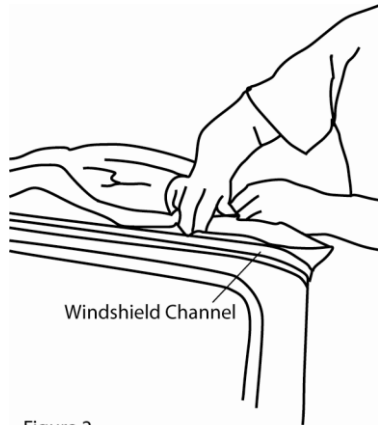

Figure 2
**Step 7.** Insert front plastic into the groove of the Windshield Channel. The ends will match nearly to each end of the Windshield Channel. From the front of the vehicle, check to make sure that the top is even from side to side. Check the door surround sides and push the top towards the rear to make sure the fabric is seated tightly around the front corners. Now snap the front snaps on the door surrounds. See Figure 2.